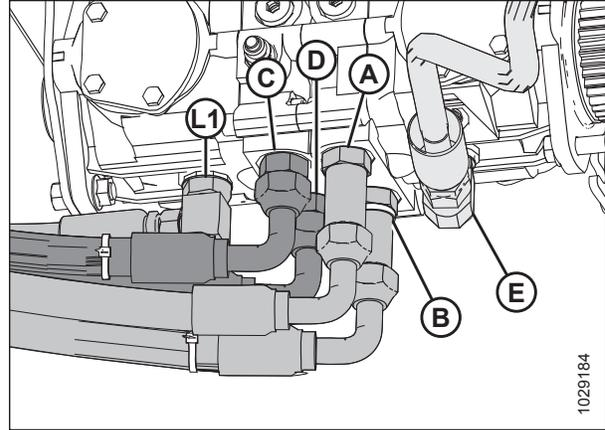

Figure 3.43: Model Years 2016–2019 Connection at the Pump (View from LH Side Cab-Forward)
- Model years 2016–2019: Refer to Figure 3.43, page 32. Six hoses attach to the bottom of the pump.